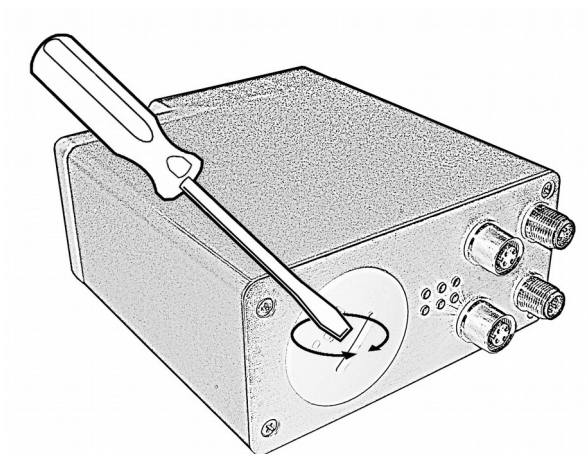

Figure 7: Screw plug for internal access
4.4 Screw plug for internal access (Figure 4 and Figure 7)